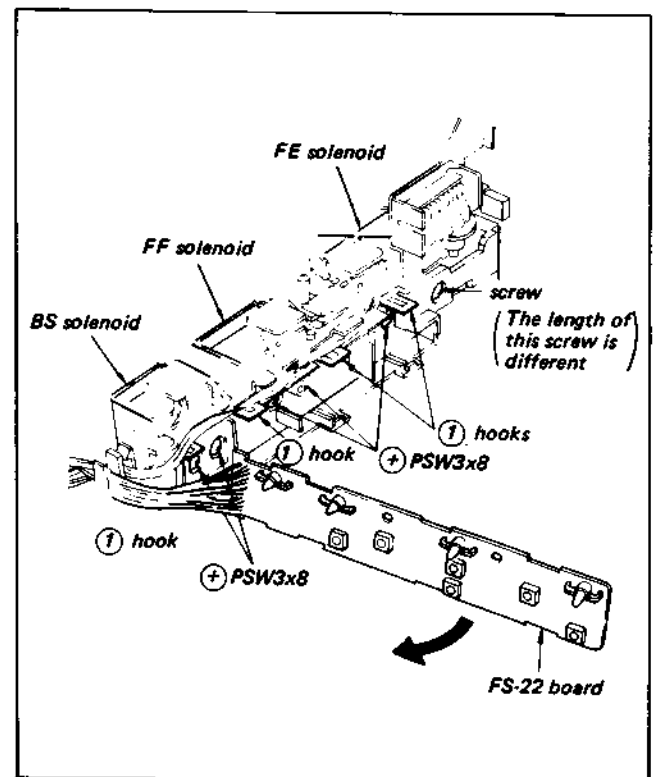

Fig. 3-13. Function solenoid position adjustment
As shown in Fig. 3-13, these three solenoids activate each function, and the adjustment must be performed very carefully.
- 2) As shown in Fig. 3-13, remove the four hooks ① holding the FS-22 board and open it in the direction of arrow A.